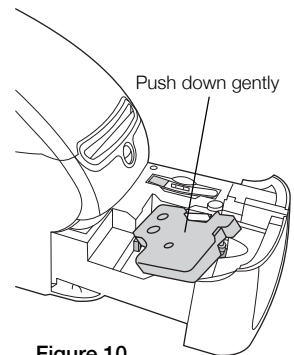

Figure 10
- 3 Insert the cassette and press firmly until the cassette clicks into place. Make sure label and ribbon are positioned correctly. See Figure 10.